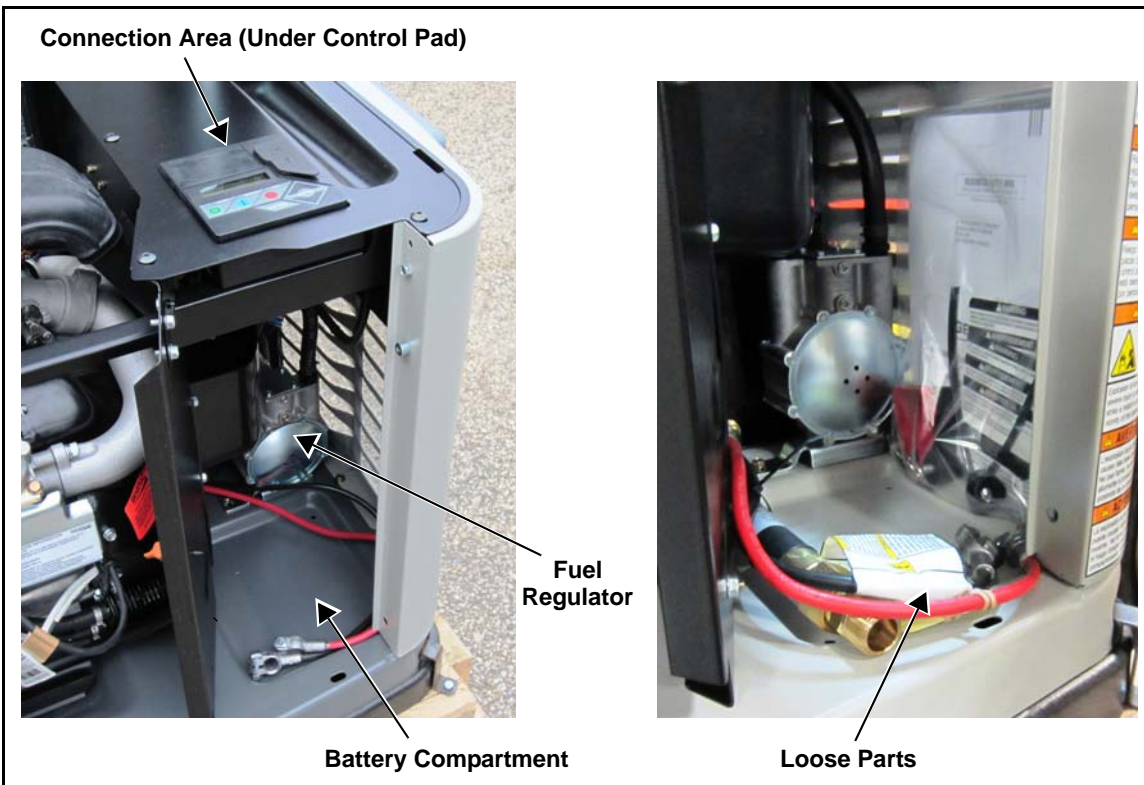

Figure 2-4. Customer Connection Area/Loose Parts Location
11. Figure 2-4 illustrates the following: